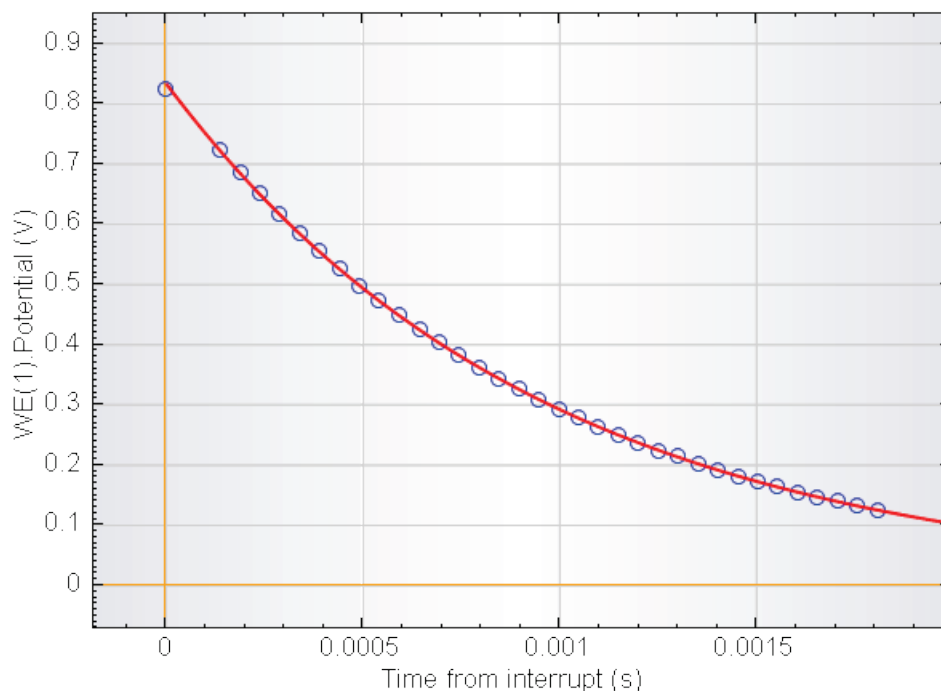

Figure 8 – NOVA i-Interrupt result on dummy cell C
2. Load the i-Interrupt procedure and press the Start button. The result should be similar to Figure 8.